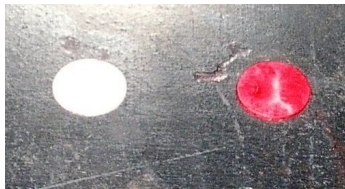

Figure 7
- Visually check cabinets for signs of moisture. Check shelf's water dots (see Figure 7). Water dots are placed on every shelf and door panel to indicate if moisture is present or has got inside the unit. The Dots are originally white in color but will turn red when water drops are absorbed.